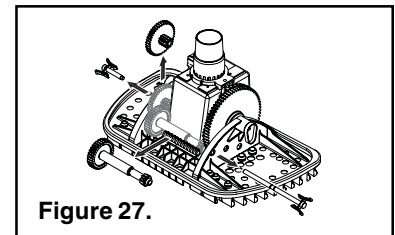

Figure 27.
3. Squeeze and pull the Sprocket Clips to release the Drive Shaft Assembly and Center Sprocket, (see Figure 27).